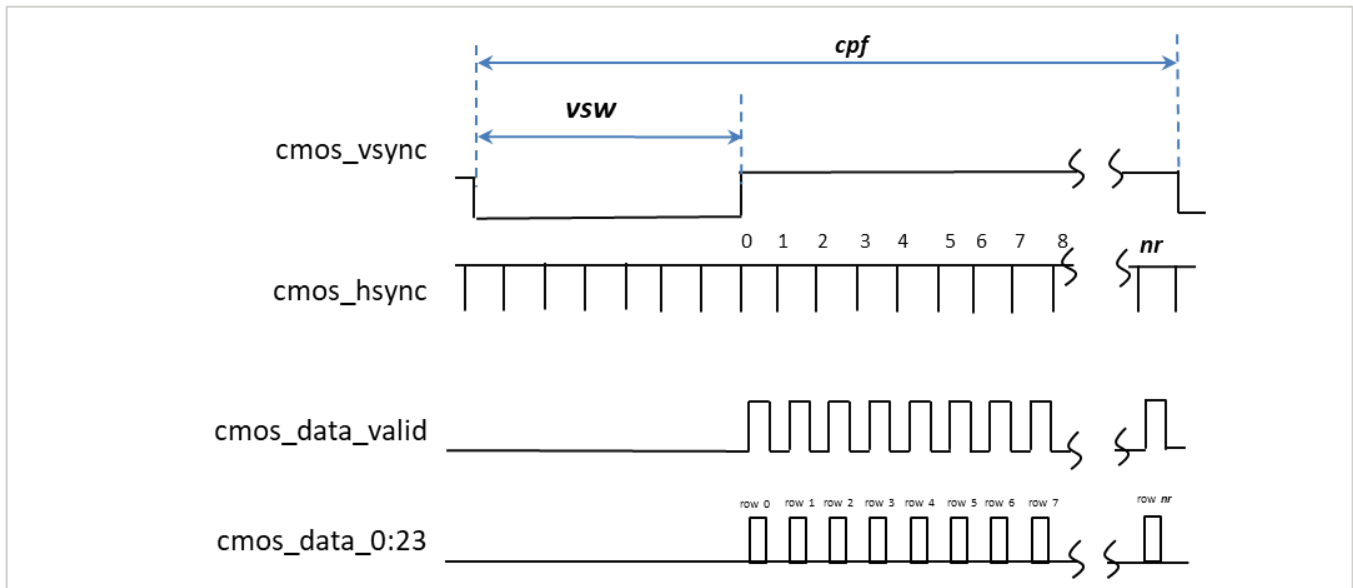

FIGURE 58: FRAME TIMING OF THE CMOS OUTPUT CHANNEL
2. Each frame period consists of three distinct sections as illustrated in Figure 58:
- b. A period when successive rows of data are provided. The total number of rows during each frame, *nr*, varies depending upon settings, as shown in Table 9. Note that the number of *cmos_hsync* pulses during a frame will typically exceed *nr* because, as illustrated in Figure 58, *cmos_hsync* continues to be output at a regular interval, even during the vertical sync and the blanking periods (i.e., even when *cmos_data_valid* is not being asserted).